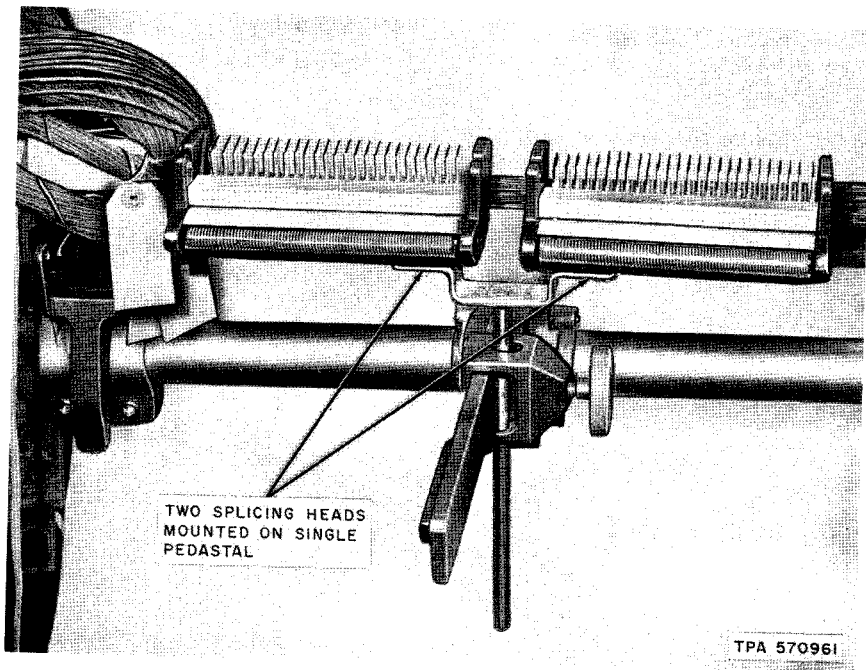

Fig. 13—Two No. 4041 Splicing Heads on Single Head Support Pedestal
4.06 Some splicing operations (632-205-235) can be performed best by mounting two splicing heads on one head support pedestal (Fig. 13).